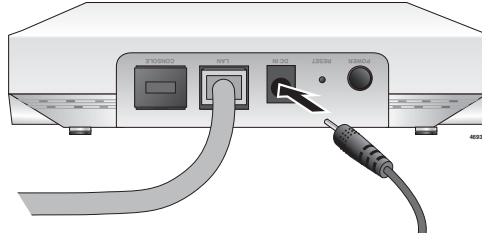

Figure 13. Connect External AC/DC Power Adapter Cable
2. Plug the DC plug of the Power Adapter into the DC-IN jack on the access point. Refer to Figure 13.